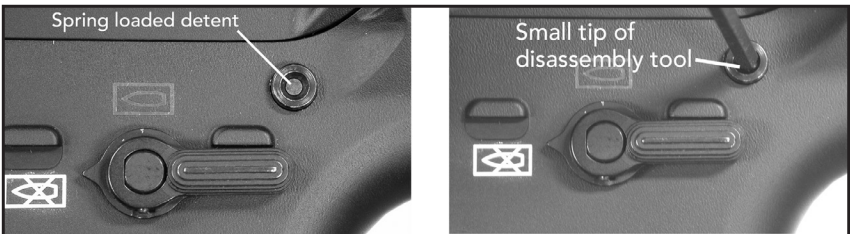

Fig. 68 – Detail of the rear Takedown Pin showing spring loaded detent.
d. Insert the small tip of the disassembly tool into the spring loaded detent located in the center of the pivot pin. While pushing on the disassembly tool, drift the pivot pin from right to left until the pivot pin reaches its limit of lateral travel. The tip of the pivot pin should be visible on the left hand side of the lower receiver (Fig. 68).